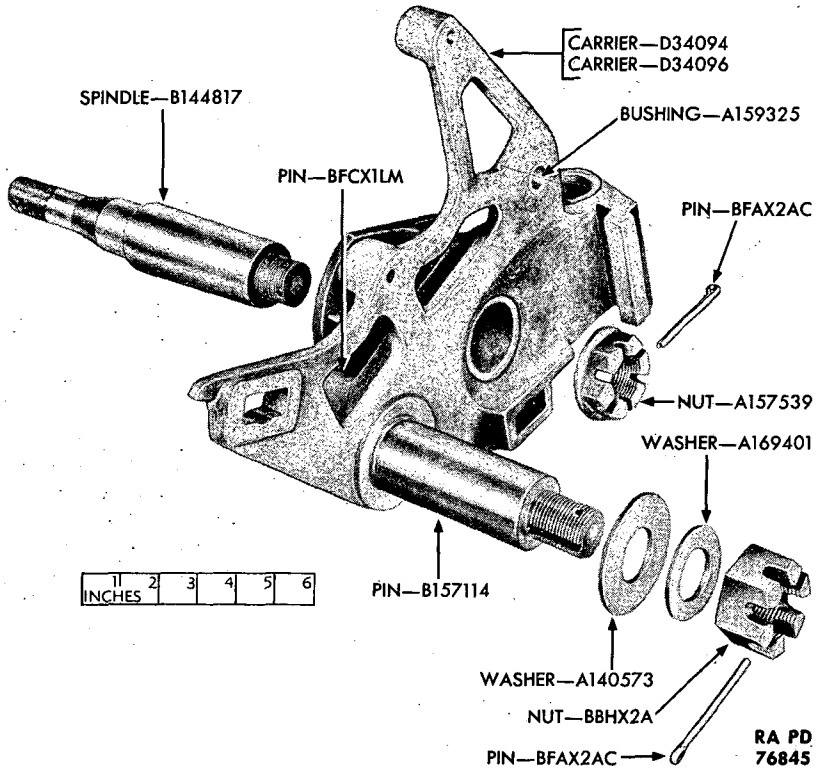

Figure 134—Wheel Carrier Assembly
(1) Clean all parts of the bottom carriage, wheel carriers, wheel carrier latch, firing base, firing base lock, and traversing rack thoroughly (figs. 134, 139, 140, 141, and 142).
(2) Examine all parts carefully for cracks, wear, or breakage.
(3) Replace all worn or damaged parts.